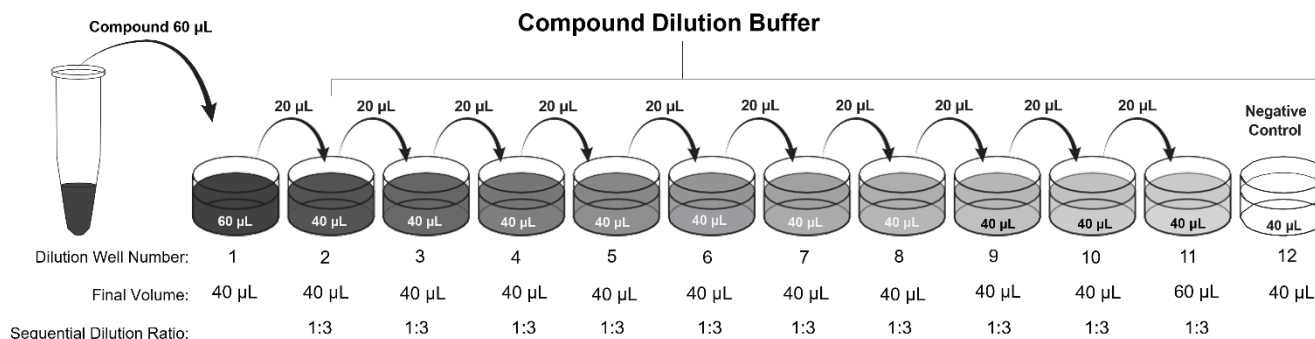

Figure 8. Compound serial dilutions - Antagonist
2. Prepare an 11-point series of 3-fold antagonist (compound) serial dilutions in Compound Dilution Buffer (this is equal to the 92-0023 series AssayComplete™ Protein Dilution Buffer), in a separate dilution plate or vials as shown in the workflow below (Figure 8).
- d. Add 60 μ L of the highest concentration of antagonist compound to well number 1 (Figure 8).